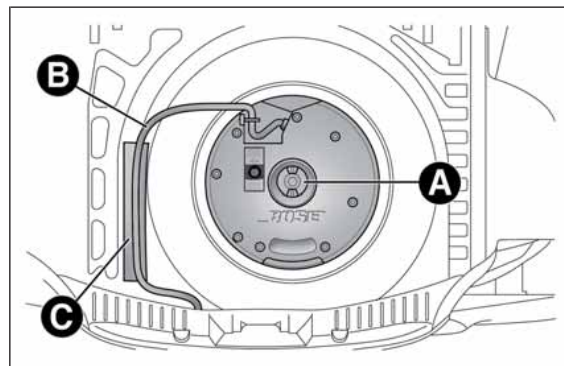

fig. 122
- unscrew locking device A fig. 122, raise the subwoofer and then remove connection cable B from the Velcro C;
- rest cable B fig. 122 on the Velcro C to avoid pinching it;